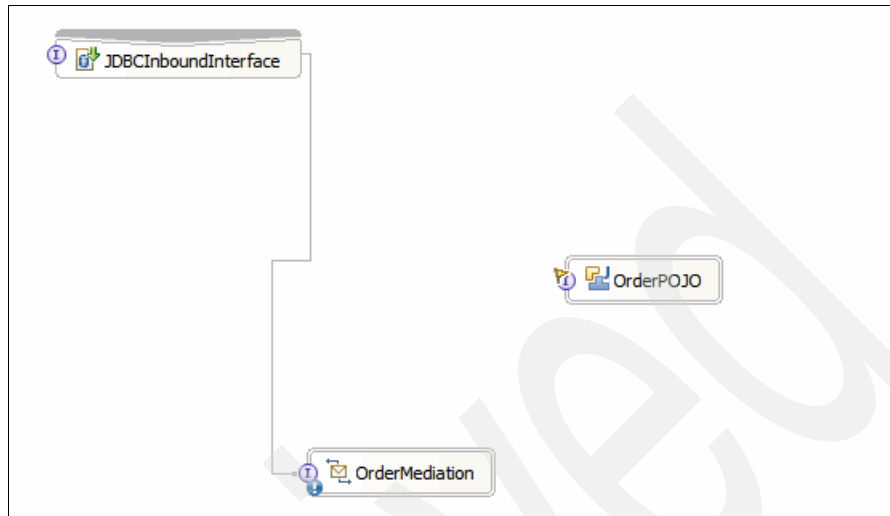

Figure 6-76 Rewiring to OrderMediation
3. Wire **JDBCInboundInterface** to **OrderMediation**. If prompted, click **OK** to add the service interface from the export to the target (Figure 6-76).